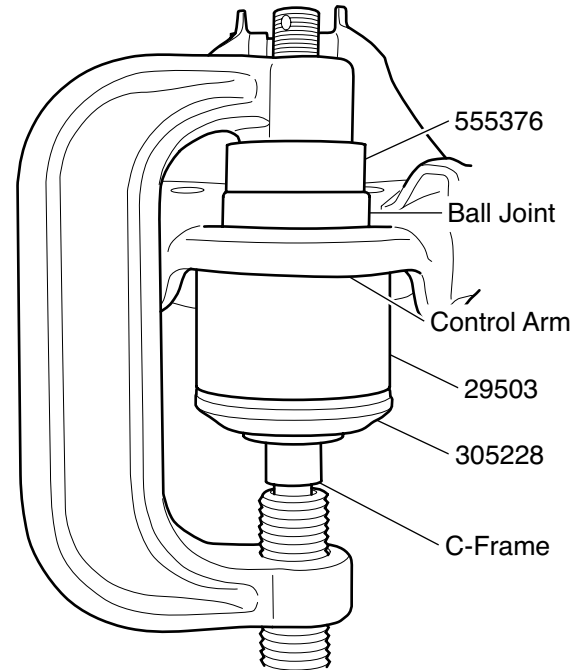

Figure 1. Ball Joint Removal
3. Position 29503, 305228 and the C-Frame as shown in Figure 1.